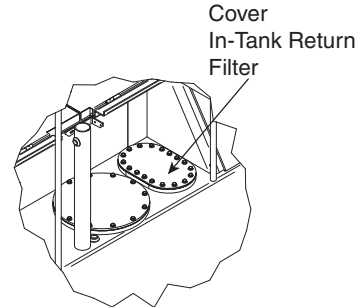

Figure 6-30 Cover Plate
2. Clean cover plate and surrounding area (see Figure 6-30).
3. Remove cover plate and gasket (see Figure 6-30).